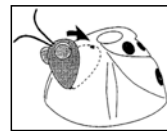

Figure 2
2. **Head Installation** - Insert the tab at the bottom of the head into its corresponding hole on the cleaner body. Then swing the top of the head forward. Align tab with top hole. Apply forward pressure until head snaps firmly in place. (See Fig. 2)